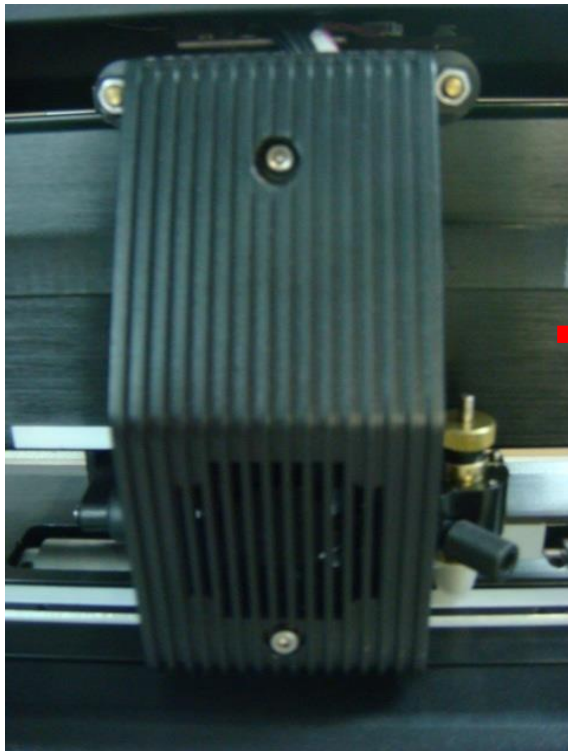

Figure 2-31
Step 1 Unscrew the Cover from the Tool Carriage using a screw driver (Figure 2-31 and 2-32).